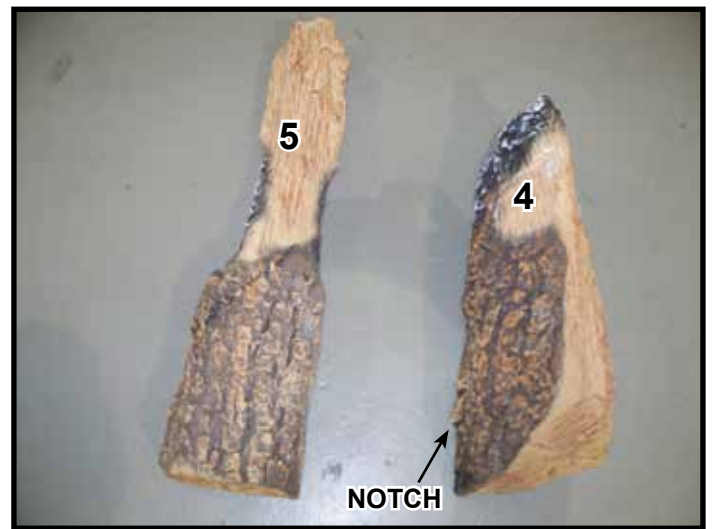
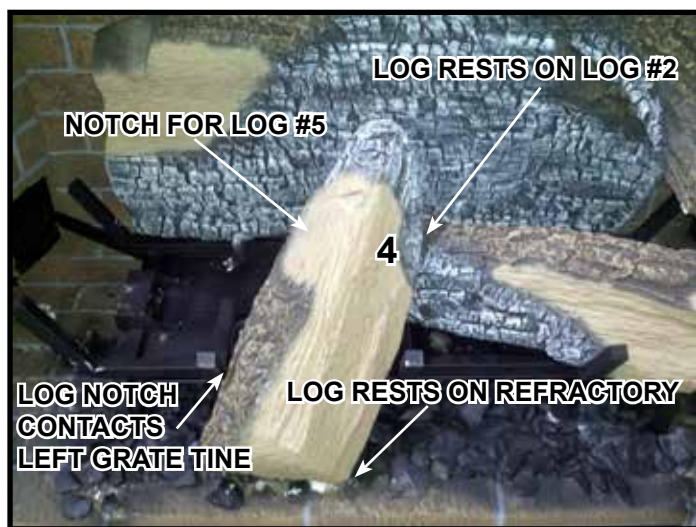
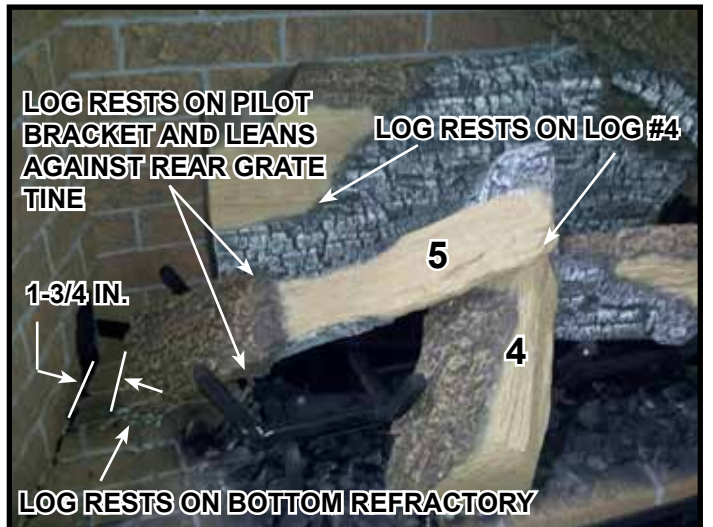

Figure 7.
Figure 8.
Figure 9.
**Log #4 (SRV2282-704):** See Figure 7. Place Log #4 between the left and center grate tines. The base of Log #4 should rest on the refractory. Notch on log will rest on the front left grate tine and the top of log will rest in notch on Log #2. See Figure 8.
**Log #5 (SRV2281-705):** Locate flat area on Log #4 that will be used to position Log #5. See Figure 8. Place Log #5 into appliance as shown in Figure 9. The left side of the log will rest on bottom refractory and pilot bracket. It will also lean against rear grate tine. The right side of Log #5 will rest in notch on Log #4. There will be a space approximately 1-3/4 inches from the end of the log to the left side refractory.